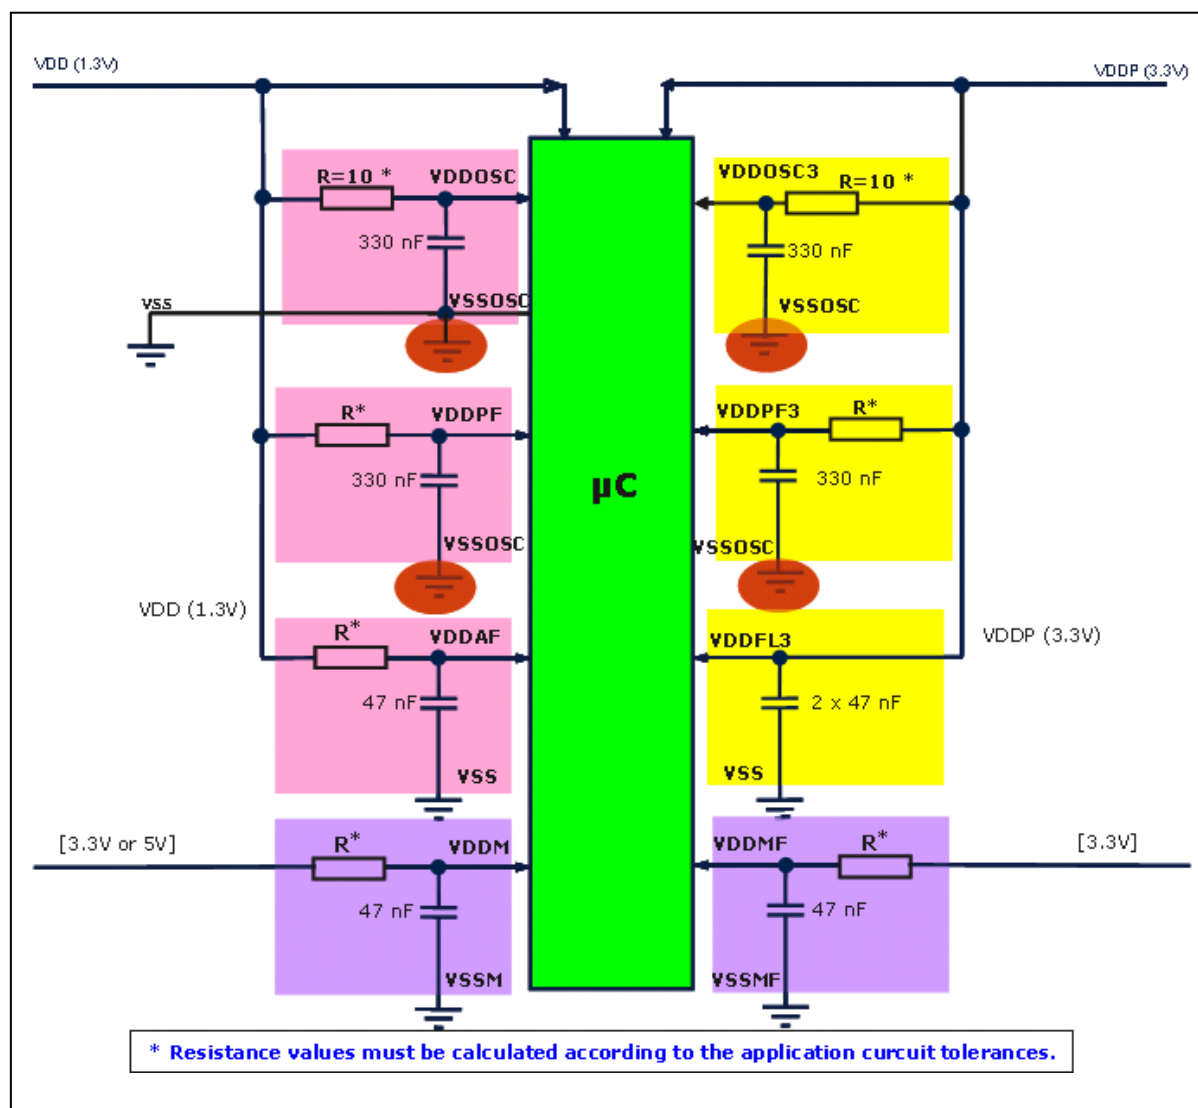

Figure 2 Filtering of VDDOSC, VDDOSC3, VDDFL3, VDDPF, VDDPF3, VDDM, VDDMF, VDDAF supply pins
- The power distribution from the regulator to each power plane should be made over filters (see Figure 2).
- RC Filters can be inserted in the supply paths at the regulator output and at the branchings to other module supply pins like VDDOSC, VDDOSC3, VDDFL3, VDDPF, VDDPF3, VDDM, VDDMF, VDDAF (see Figure 2). Using inductance or ferrite beads (5 – 10 μH) instead of the resistors can improve the EME behaviour of the circuit and reduce the radiation up to ~10dB μV on the related supply net.